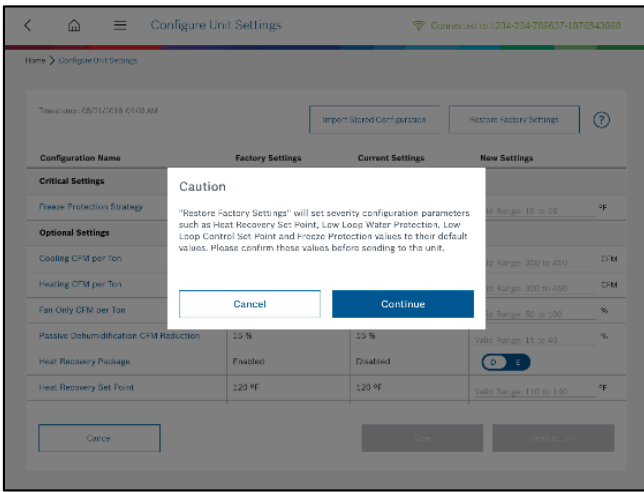

Figure 39: Restore - Caution
- Tap the “Restore Factory Settings” button and the popup will show caution information about restoring unit. Tap continue to proceed restore. See figure 39.